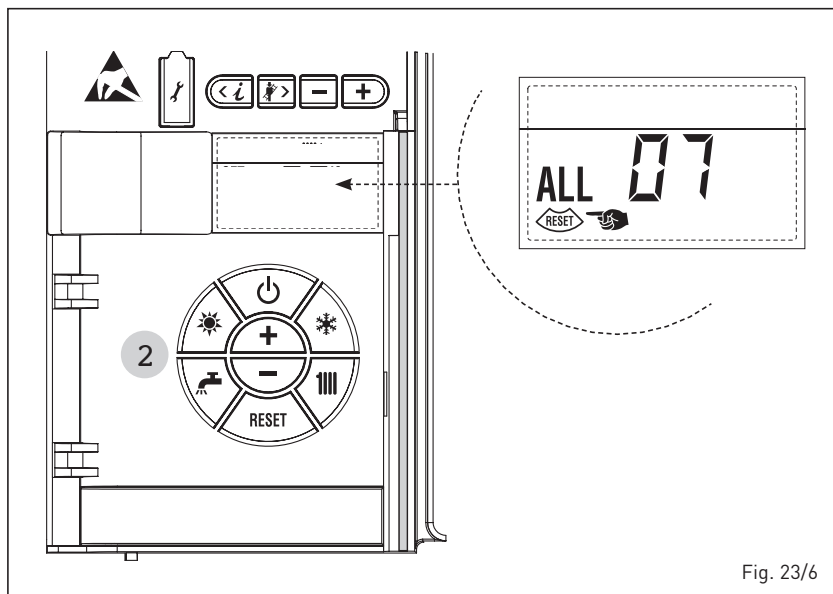

Fig. 23/6
– **ANOMALÍA LLAMA PARÁSITA “AL 08” (fig. 23/7)**